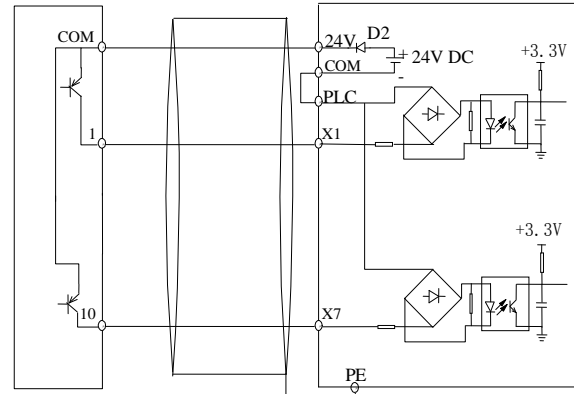

Fig 4-10 Use internal power supply
2) Use internal +24V power supply and the external controller uses PNP transistors whose common emitter are connected, as shown in the fig 4-10(Make sure the PLC and 24V terminal is disconnected). The wiring is as shown in fig.4-10